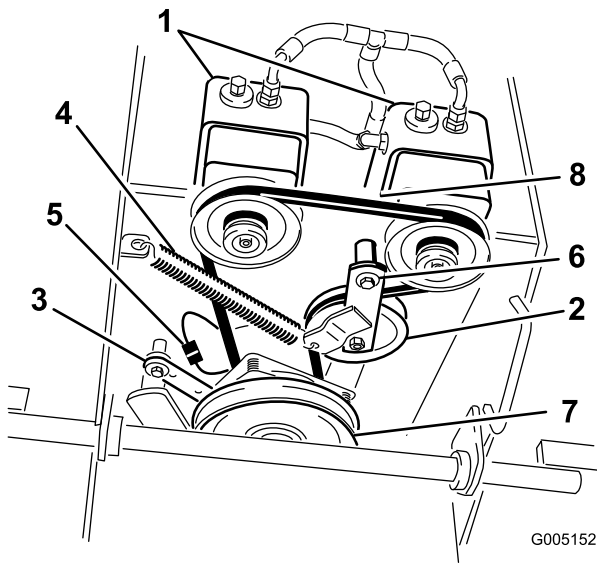

Figure 53
6. Disconnect the clutch retainer from the engine deck (Figure 53).
7. Unhook the idler spring from the frame (Figure 53).
9. Install the idler spring between idler arm and frame bracket (Figure 53).
10. Install the clutch retainer to the engine deck (Figure 53).